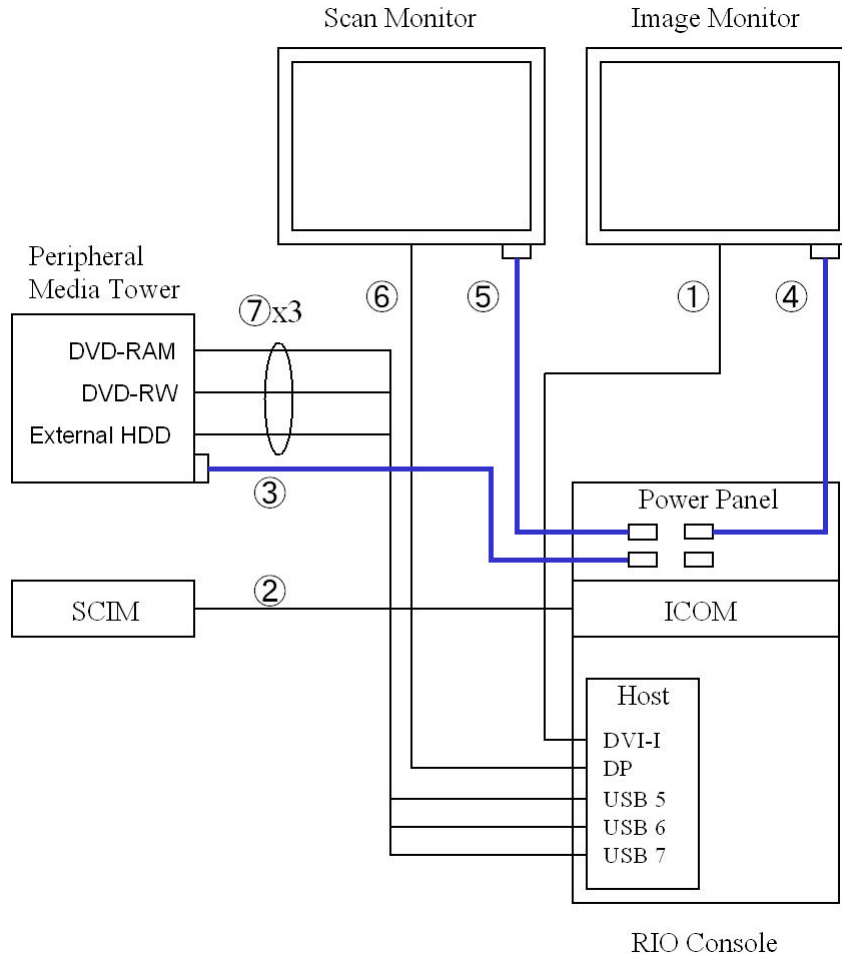

Figure 1-1 RIO Console Cable Connection
- 2.) Replace the cables according to the Table 1-2 and Figure 1-1.